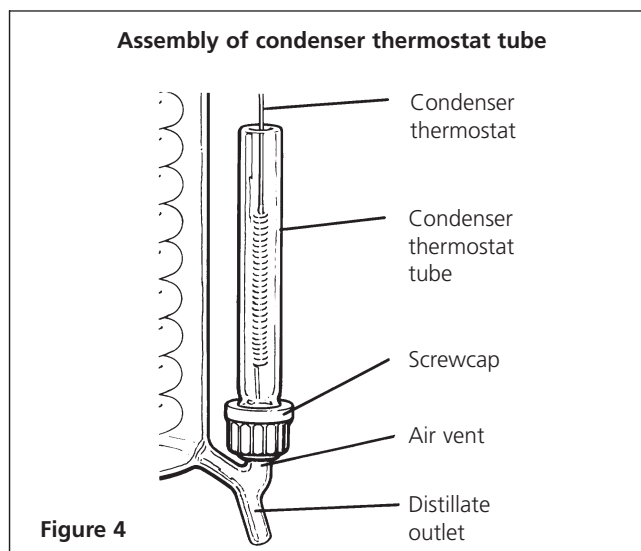

Figure 4
12. Assemble the condenser thermostat tube A515414 connecting cap QC18/11, silicone rubber ring QR18/7 as shown in **figure 4**.
If the cap is left loose the assembly may now be carefully slid over the air vent on the distillate outlet - **see figure 4**. Tighten up the cap once the tube is in place.